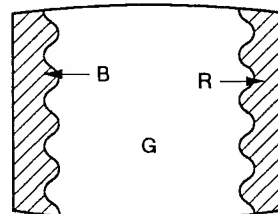

Fig. 3-2
5. Move the deflection yoke backward, and adjust with the purity control so that green is in the center and blue and red are at the sides, evenly. (Fig. 3-2)